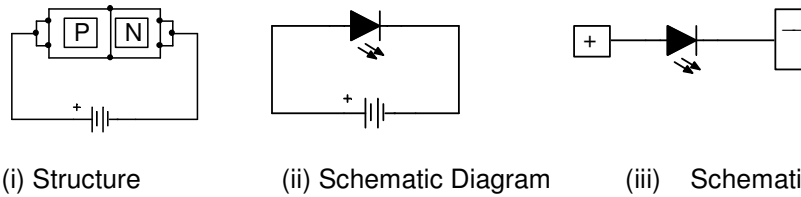

Fig. 54
**Marks (4)**
**Ans:** **LED:** LED (Light Emitting Diode) is a Forward Biased P-N junction diode which emits light under the influence of an electric field. The structure, schematic diagram and symbol of LED are shown in fig.54(i), 54(ii) and 54(iii).